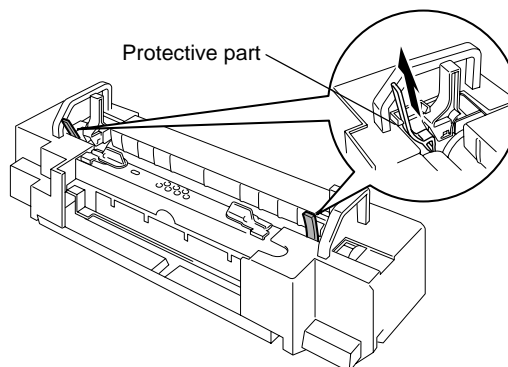

Fig.6-16
- 2) Pull out the orange protective parts fitted between the rollers of the fusing unit out. (Fig.6-16)